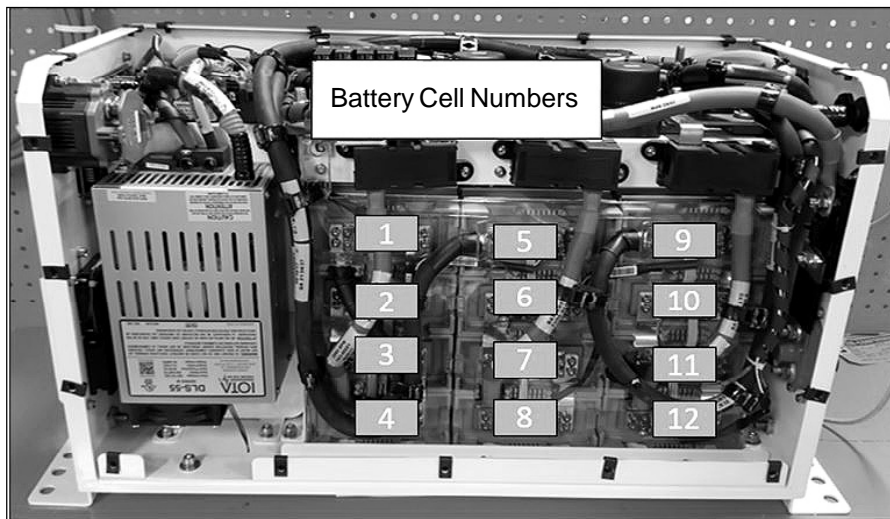

Figure 12 — JEMS 4 Batteries
- JEMS 4 contains 3 battery modules and displays voltages for cells 1-12 (refer to Figure 12).